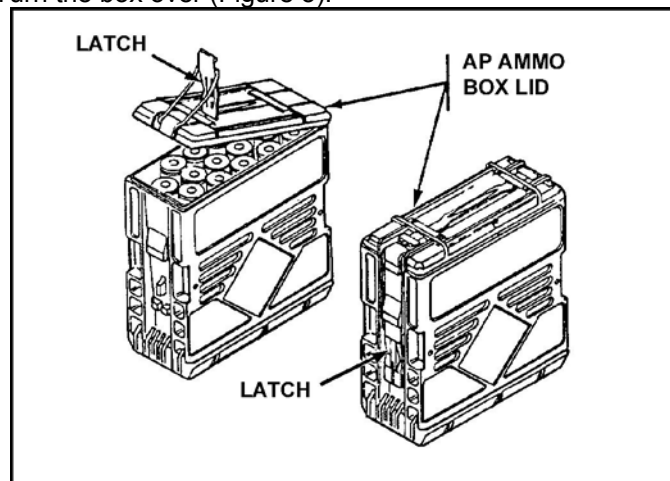

Figure 3. Ammunition box.
- Place the first ammunition belt in the ammunition box with the rounds pointed down. Close and latch the lid. Turn the box over (Figure 3).